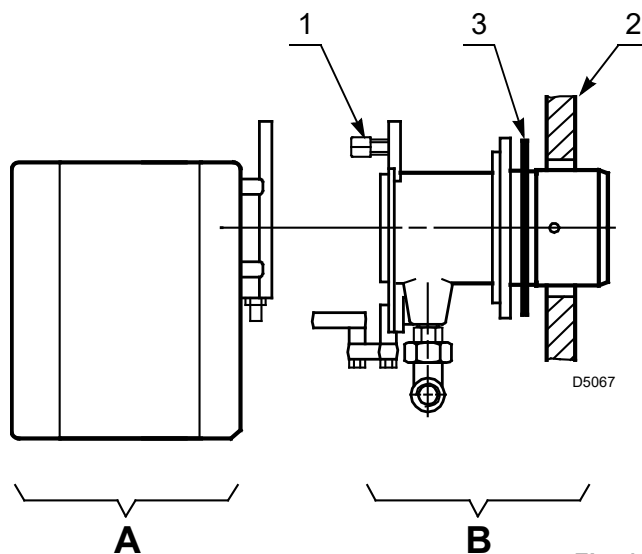

Fig. 10
- Separate the combustion head assembly from the burner body by removing nut 1) and removing the group A)(Fig. 10).
- Fix the group B)(Fig. 10) to the boiler plate 2), inserting the supplied insulating gasket 3).